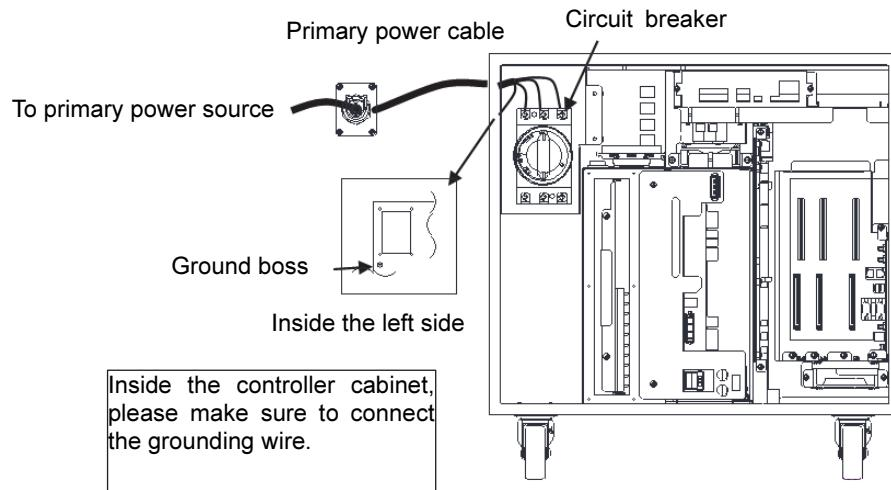

Fig. 3.7.2 Connection of the primary cable
- 4** As shown in Fig. 3.7.2, connect the primary power cable to the primary side of the breaker, and the ground wire to the ground terminal (PE).